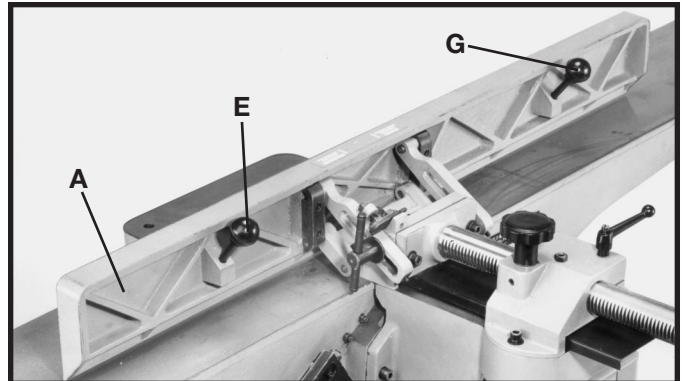

Fig. 19
3. Thread shorter fence handle (E) Fig.19, into infeed end of fence (A) and longer fence handle (G) into outfeed end as shown.